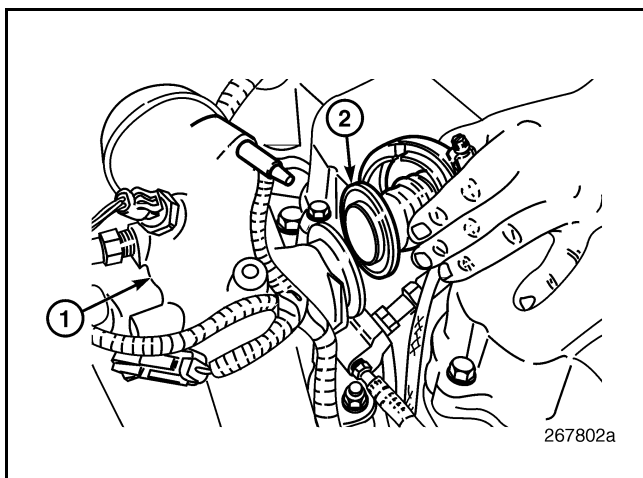

Figure 509 — EGR Tube-to-Mixer Connection
- Loosen and remove the clamp attaching the upper EGR gas tube to the EGR gas mixer tube (Figure 509). Remove and discard the seal in the gas-tube flange.
- With the **new** seal in place, position the upper EGR gas tube on the mixer tube flange and install the clamp (Figure 509).